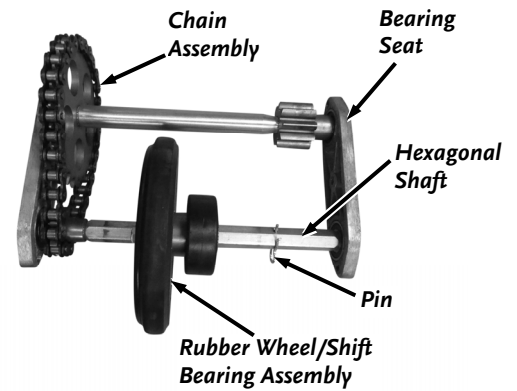

Figure 75
15. Remove the Pin from the Hexagon Shaft (**Figure 75**).
2. Slide the Rubber Wheel/Shift Bearing Assembly onto the Hexagonal Shaft (**Figure 75**). **IMPORTANT!** – Ensure that the heads of the Bolts are facing the Chain and the Shift Bearing is facing away from the Chain.